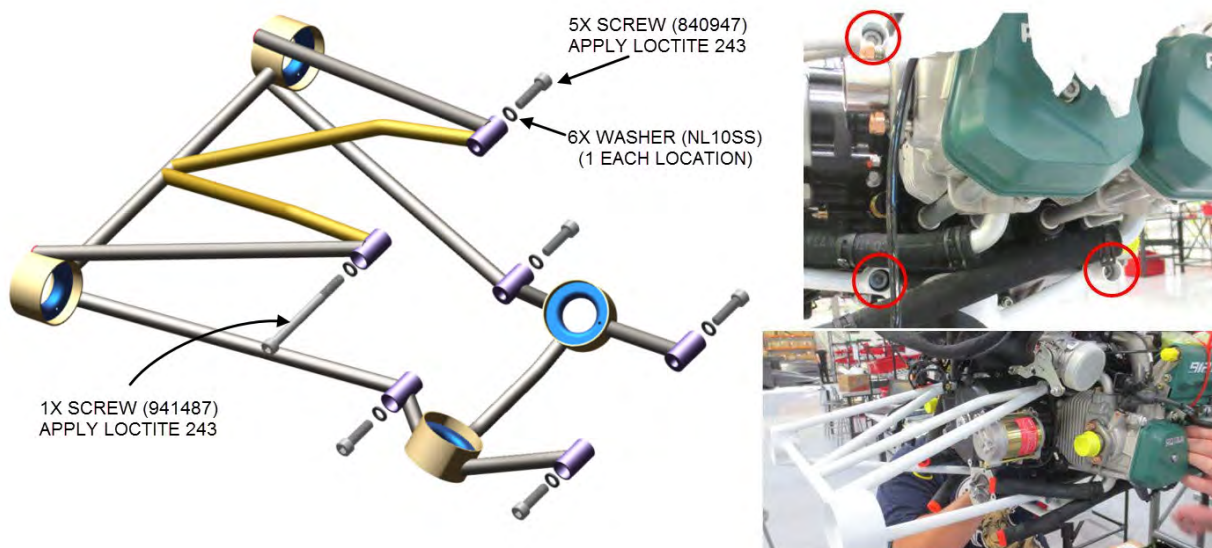

FIGURE 16-17
4. Remove the six M10 screws that attach the ICA007128 engine mount to the engine case (see Figure 16-17).
1. Install the engine mount as shown in Figure 16-17. The single long screw is a 941487. The five short screws are 840947. The washers are Nord-Lock NL10SS. Apply LOCTITE® 243™ to the screw threads on installation and torque each of the six screws to 30 ft-lb_f.